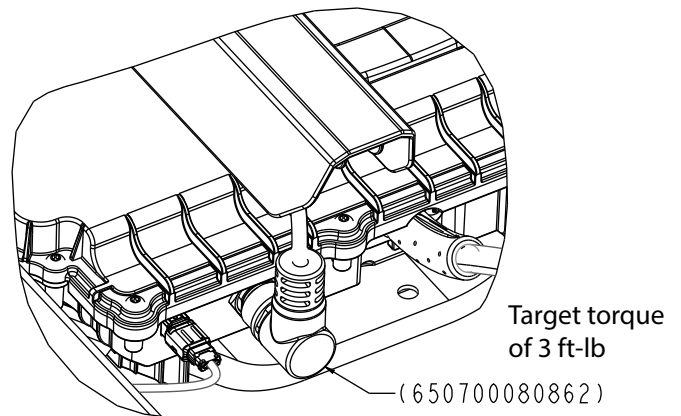

Figure 100 –
7. Remove the FEIB to status external module coil cable assembly (650700080862) (Figure 100).